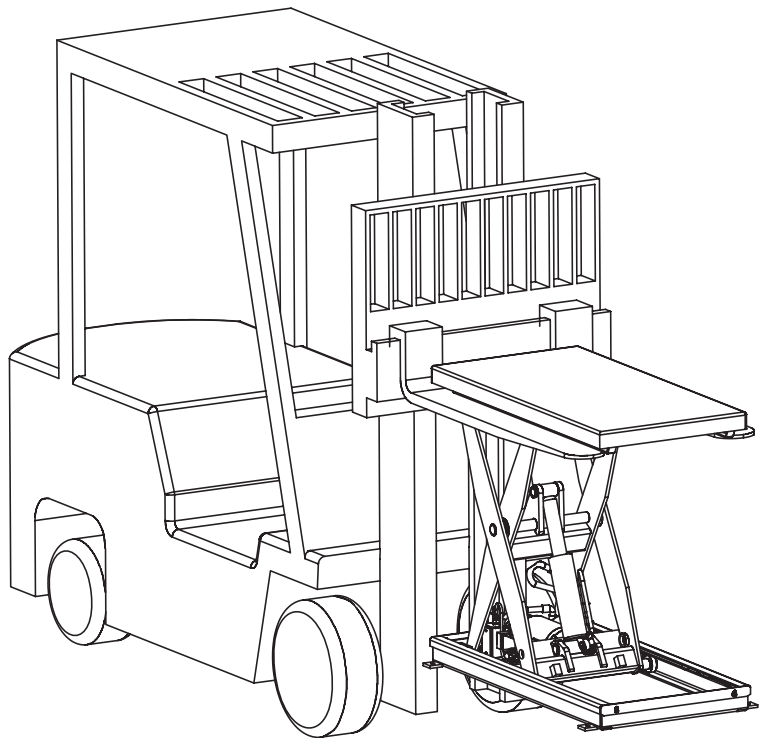

Figure 6 - Handling the Vision Lift
5. Using a forklift, position the forks under the platform structure, as detailed in Figure 6. Proper care should be exercised while using the fork lift as to not damage the lift. Lift the Vision™ lift off the pallet. Next, remove the pallet and place it off to the side. Position the lift in the desired location. Use care not to damage the lift's power cord or control cord.